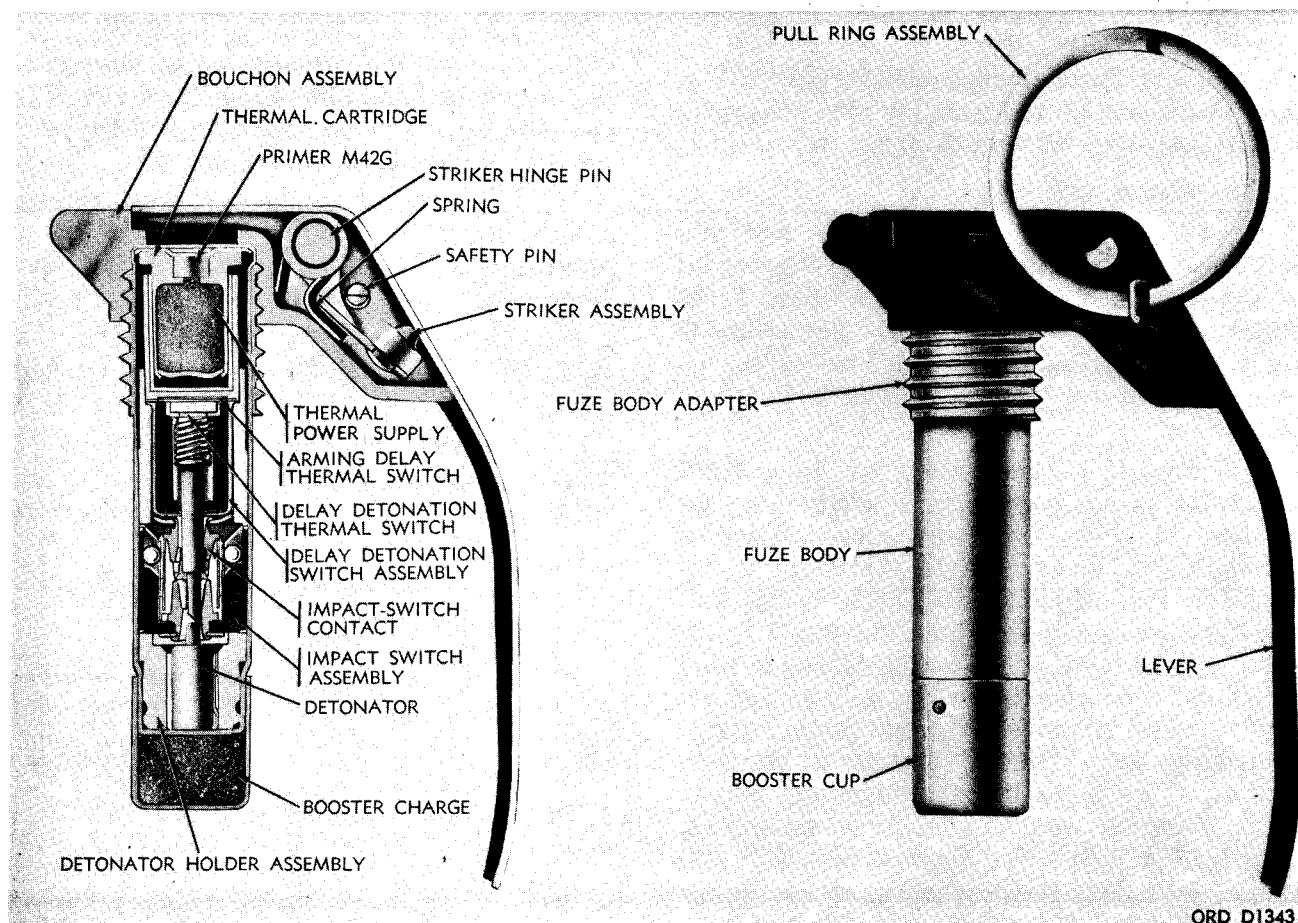

Figure 2-10. Hand grenade fuze M217.
(2) *Fuze, hand grenade: M217.* Fuze M217 (fig. 2-10) is equipped with a safety pin, the split end of which is either spread or has a diamond crimp, and a pull ring. IMPACT is embossed on the safety lever. (Older models had red safety levers with or without IMPACT painted thereon in black.) The major component are as follows: a bouchon assembly, a fuze body assembly (which contains a thermal power supply, an arming delay thermal switch, a delay-detonation thermal switch assembly, an impact switch assembly and an electric detonator), and a booster pellet. The bouchon assembly consists of a striker, striker spring, striker hinge pin, safety lever and safety pin with pull ring. The fuze body is hermetically sealed.
(2) *Fuze, hand grenade: M217.* Fuze M217 (fig. 2-10) is equipped with a safety pin, the split end of which is either spread or has a diamond crimp, and a pull ring. IMPACT is embossed on the safety lever. (Older models had red safety levers with or without IMPACT painted thereon in black.) The major components are as follows: a bouchon assembly, a fuze body assembly (which contains a thermal power supply,